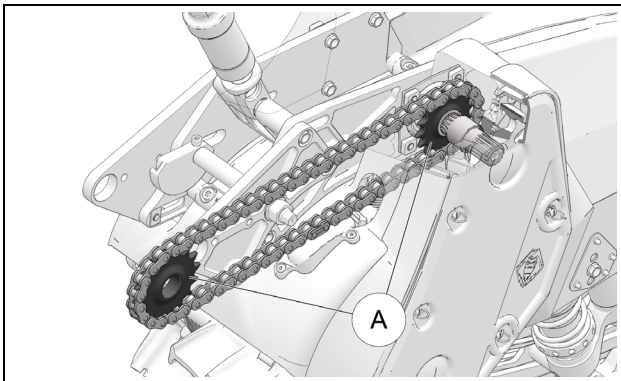

Figure 54
Inspect the chain drive sprockets (A) for wear. If the chain is set to the required tension (3-6 mm [1/8-1/4 in.] deflection) but misses or skips over some of the driving teeth, the sprockets must be replaced. See Figure 54.